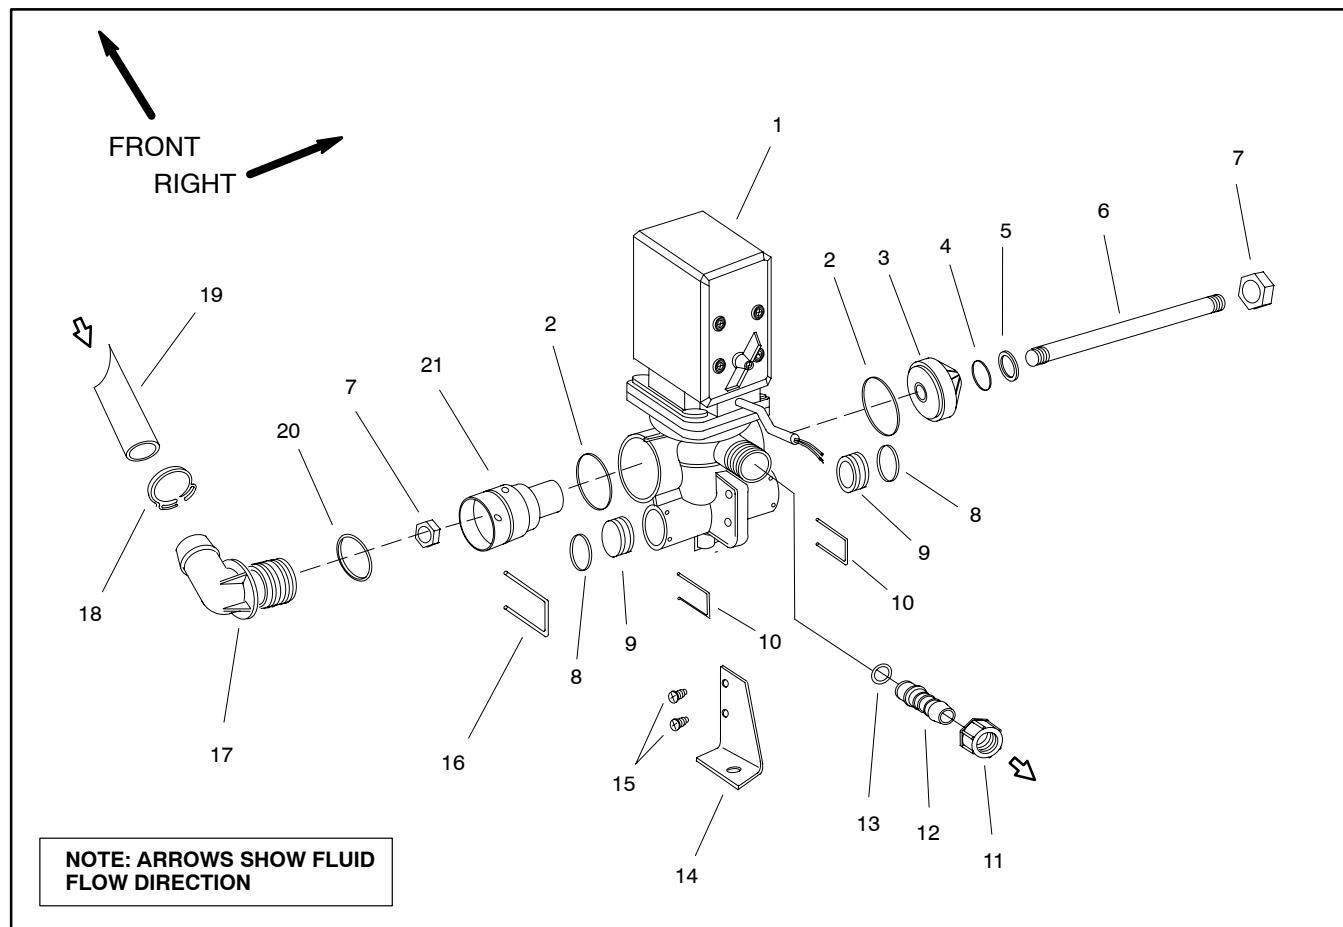

Figure 24
Disassembly (Fig. 24)
1. Disassemble agitation valve motor as needed using Figures 24 and 25 as guides. Discard all removed o-rings and gaskets.
Assembly (Fig. 24)
1. Assemble agitation valve motor assembly using Figures 24 and 25 as guides. Replace all removed o-rings.